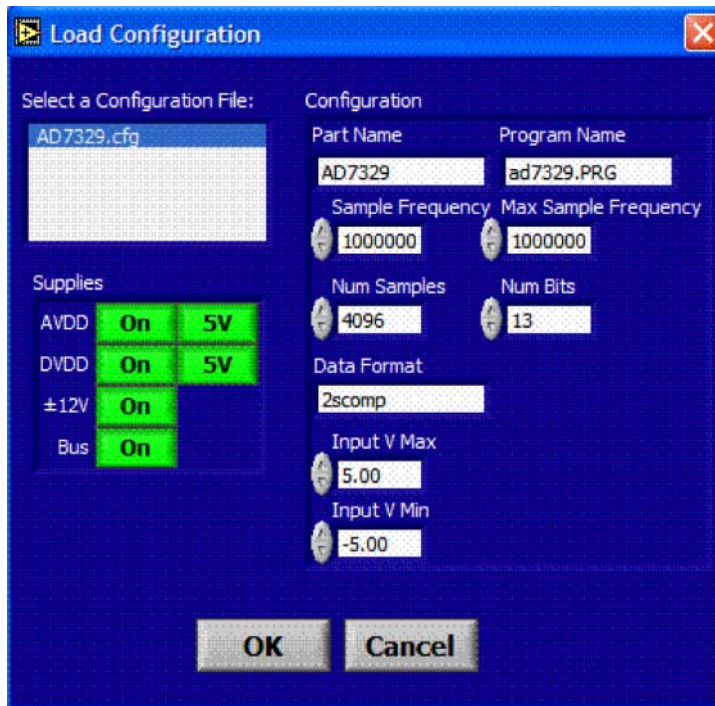

Figure 4. AD7329 Evaluation Software, Load Configuration Dialog Box
- Click **Device Select** to open the **Load Configuration** dialog box (see Figure 4) and to load a configuration file.
The **Load Configuration** dialog box allows users to load the required configuration file for the evaluation board (see Figure 4). The configuration file gives the software detailed information about the AD7329 evaluation board, and the part connected to the EVAL-CONTROL-BRD2, such as the number of bits (**Num Bits**), the maximum sampling rate (**Max Sample Frequency**), the output coding, and the power supply requirements. The configuration file also tells the software the names of the DSP program file that it should download to the EVAL-CONTROL-BRD2. The **Load Configuration** dialog box also allows the user to choose the sampling frequency (**Sample Frequency**) and the number of samples (**Num Samples**) to take.
When running the software, click the **Device Select** button. This displays the **Load Configuration** dialog box (as shown in Figure 4). The **Select a Configuration File:** list located on the top left of the **Load Configuration** dialog box lists the available configuration files. The configuration files are text-based files that contain information about the particular evaluation board to be tested. The file covers the **Part Name**, number of samples (**Num Samples**) to be taken, number of bits (**Num Bits**), default and maximum sampling frequency (**Sample Frequency** and **Max Sample Frequency**), power supply settings (**Input V Max** and **Input V Min**), and **Data Format**. The configuration file also contains the names of the DSP code *.prg that is to be downloaded to the EVAL-CONTROL-BRD2. The user should select the relevant configuration file and click **OK**. The EVAL-CONTROL-BRD2 is reset, and the DSP program is downloaded. When the download is completed, the power supply settings indicated in the configuration file are set, and the user may hear some of the relays clicking. The selection windows (for example, **Num Samples** and **Sample Frequency**) is set to the default values specified by the configuration file. However, the user is free to change these at will.